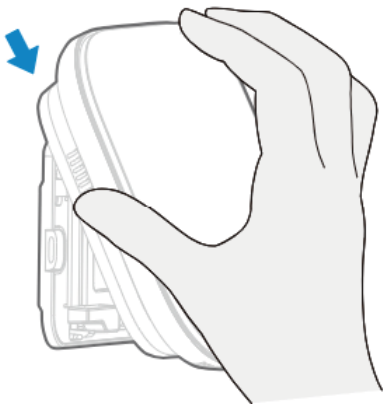

Fig. 9 Finish Installation
- Gently press the thermostat onto the M-base by using the "ears" of the M-base to align. (See Fig. 9)